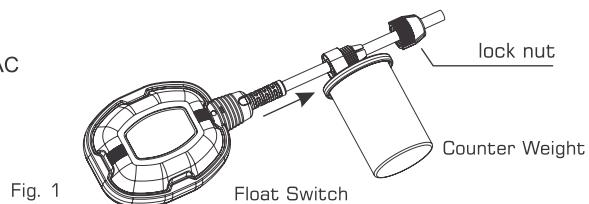

Fig. 1
- Insert the cable into the counter weight at conical part side and tighten the lock nut with moderate pressure at fixing end refer Fig:1.